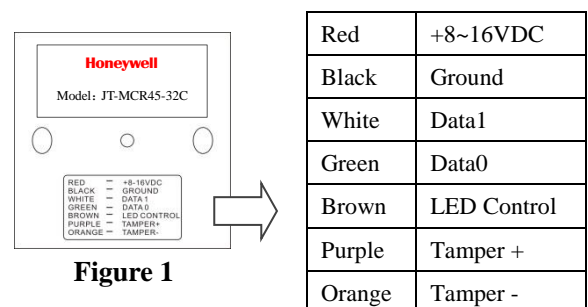

Figure 1
2. Splice the reader pigtail wires to the corresponding host wires and cover each connection (see Figure 1).
Figure 1 below shows how you should wire the reader to the host.